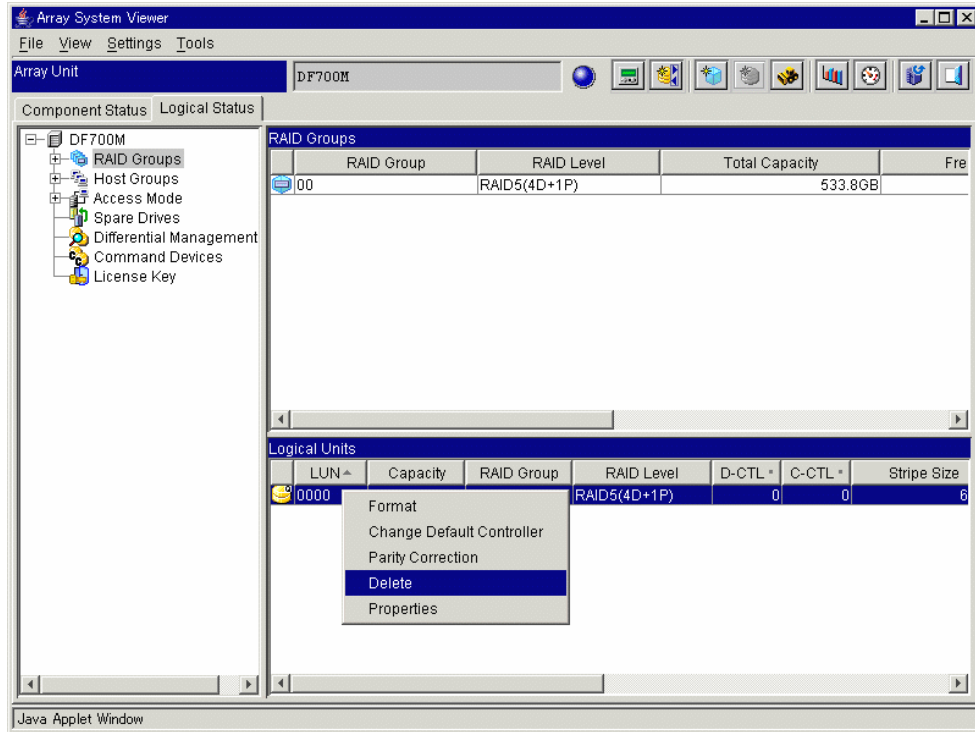

Figure 5.22 Logical Unit - Delete
1. Click the **Logical Status** tab on the **Array Unit** screen. See Figure 5.22.